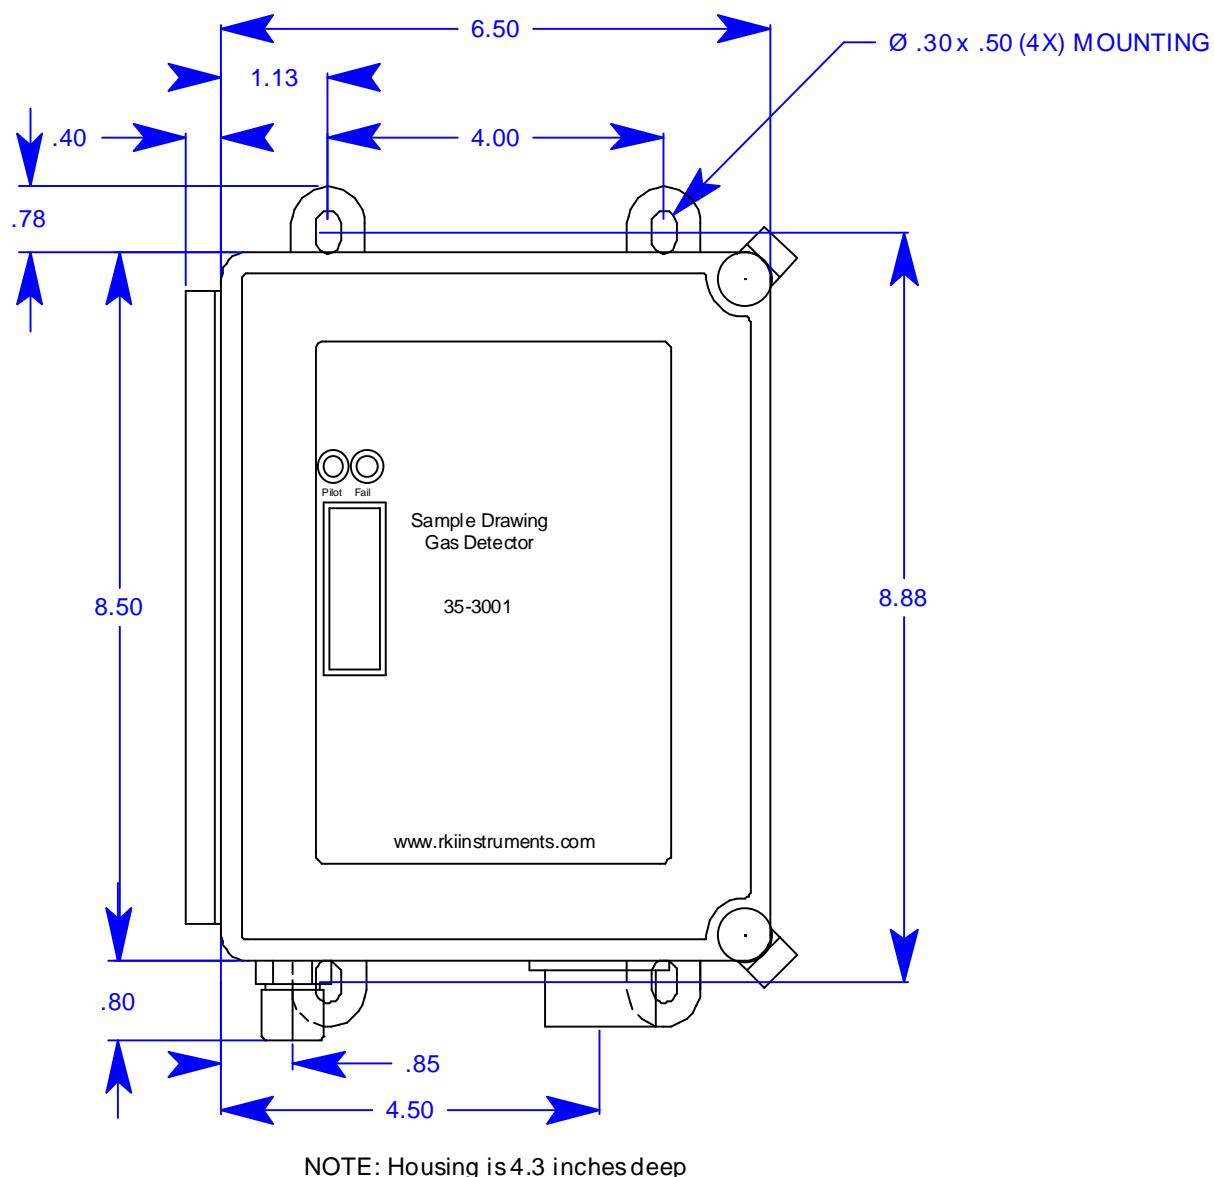

Figure 4: Outline and Mounting Dimensions
3. Slightly loosen the screw that secures the mounting foot to the housing, then rotate the mounting foot 180 degrees (see Figure 4).